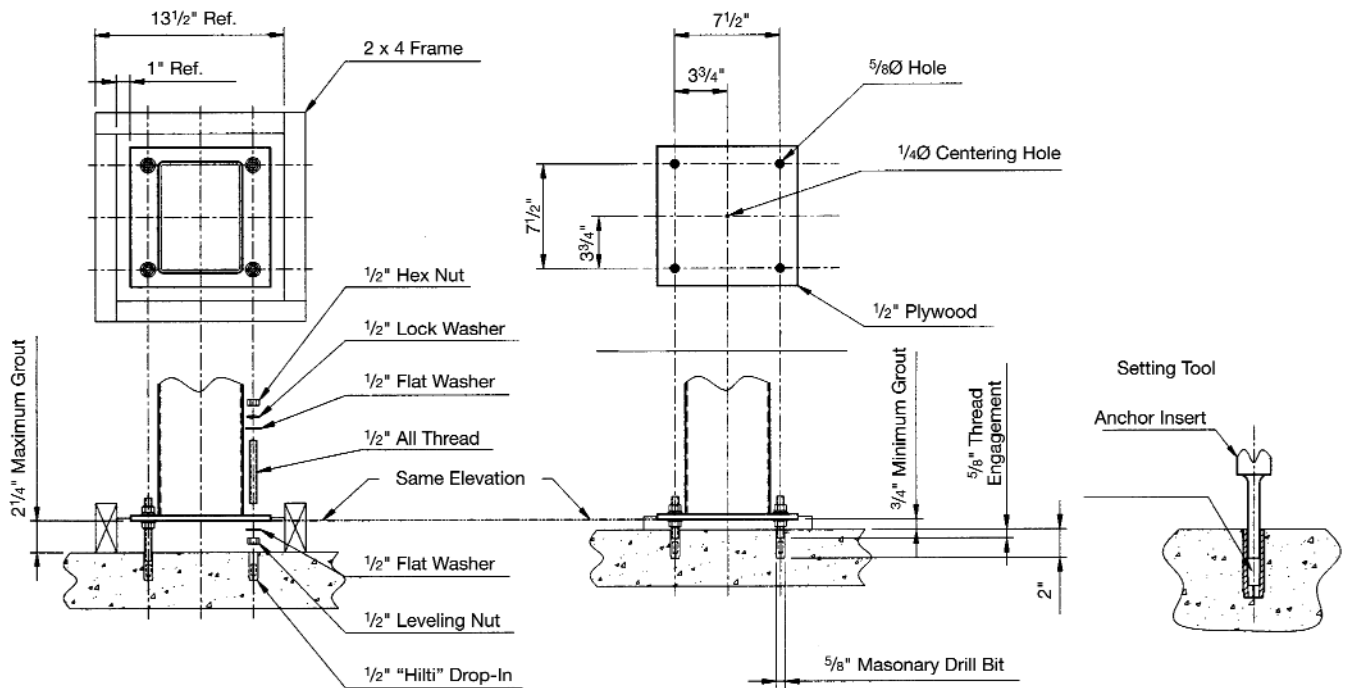

FIGURE 3
3. Using a transit or a sight level, determine the highest point on the floor where a column will rest. Plan to level all the other columns to this high point. Allow 1 inch of grout under the column base at the high point. The hardware provided with a standard system will be able to accommodate grout settings from $\frac{3}{4}$ inch to 2 $\frac{1}{4}$ inches (see *Figure 3*). If the column location is flat and the difference between the high and low points do not exceed $\frac{1}{8}$ inch in 20 feet, columns may be set directly on the floor but be advised that the use of grout offers advantages. Be aware that excessive slope of the bridge girder or of the runway track could cause a hoist-trolley or a bridge to coast to the low side.
1. Doing one side at a time, layout and mark 4 center points on the slab for the anchors for each column using a pattern of 7¹/₂" x 7¹/₂" (3³/₄" from the column center point on each side in both axial direction). See *Figure 3*. One additional step the installer can take is to fabricate a template out of wood and use this for laying out the bolt pattern and for drilling the holes for all anchors. This will facilitate the layout and help maintain consistency.
3. Drill a 5/8" diameter hole (2" deep) into the concrete for each anchor. Blow out all cuttings and debris out of the hole. Insert the anchor shell, with the threaded end up, into the drilled hole. The shell anchor has an insert inside. With the use of a drift punch or a setting tool, expand the shell anchor by driving the insert downward with a hammer until it feels secure (see *Figure 3*). Be careful not to damage the thread of the shell anchor.
3. Grout must be poured in place. **Do not dry pack.** One technique used for setting grout is to use wood forms all around the base plate (see *Figure 3*). Allow 1 inch of space all around the base plate edge. The system is transported using 2 x 4 dunnage material. This can be used for this purpose. Keep the wood form together with nails or by using adhesive tape such as duct tape. Tape the wood form to the concrete on the outside to prevent leakage. Following the manufacturer's instruction, prepare the grout and pour the mixture in until the grout rises to a point just below or level with the top of the base plate. Be sure that the mixture flows through the bottom of the base plate. This will ensure good bearing.